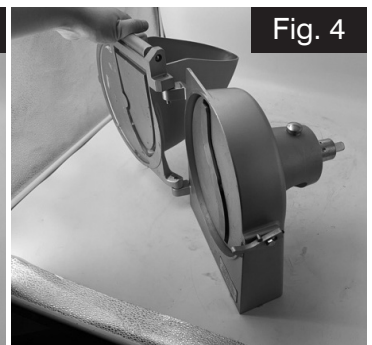

Fig. 4
4. Release the lock pin and close and securely latch the front housing. (Fig. 4)